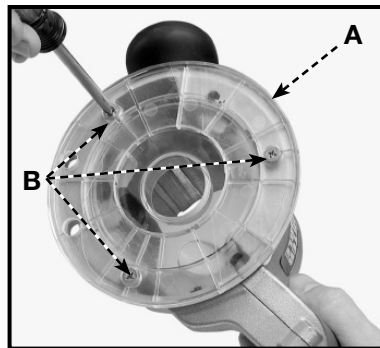

Fig. 3
3. Remove the screws (B) Fig. 3 and remove the sub-base (A) Fig. 3.